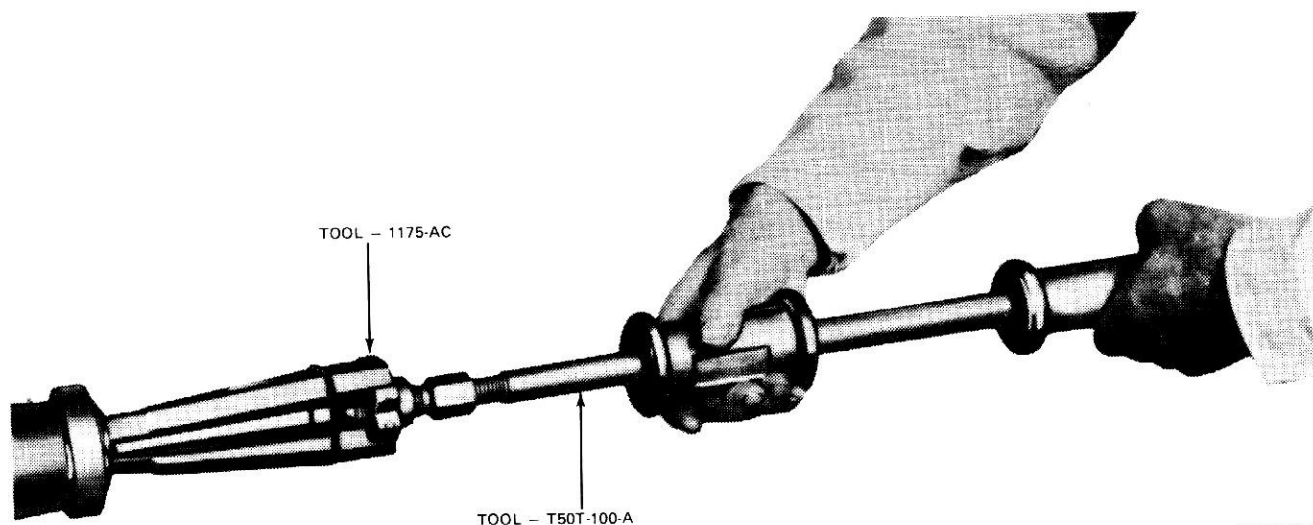

FIG. 6 Removing Extension Housing Seal
3. When only the rear seal needs replacing, carefully remove it with a tapered chisel or the tools shown in Fig. 6. Remove the bushing as shown in Fig. 7. **Use the bushing remover carefully so that the spline seal is not damaged.**